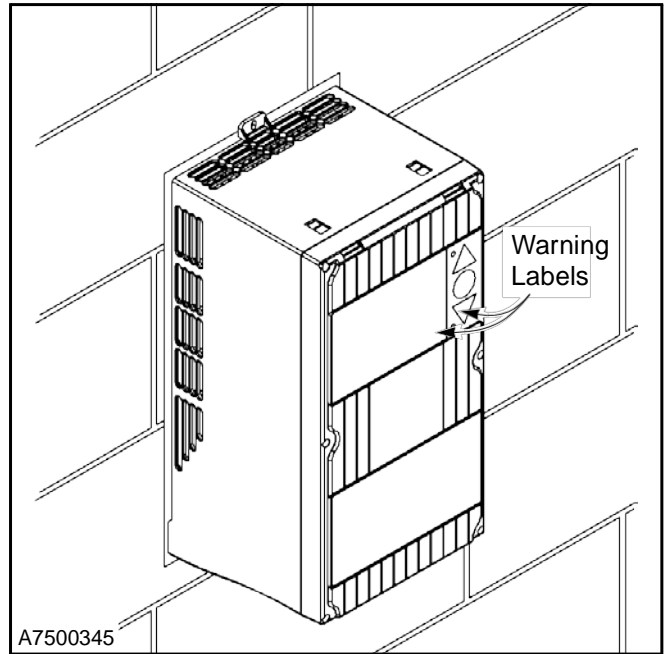

Figure 26
1. If the control panel was mounted tight against the wall. (See Figure 26.)